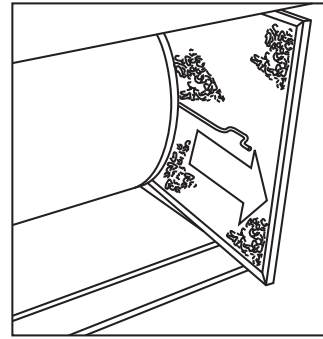
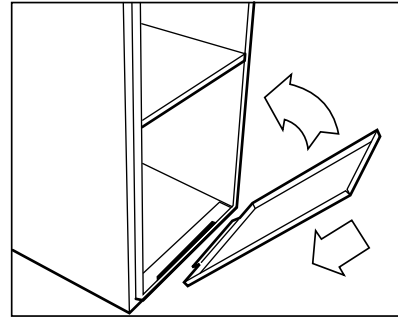

Fig. 26 - Slide Filter Out of Furnace (Side Inlet) A93013
Fig. 27 - Replace Blower Access Panel A93205
- d. Slide air filter out of furnace. (See Fig. 26.)
- **AIR FILTER(S) LOCATED IN BLOWER COMPARTMENT SIDE:**
- a. Remove filter retainer from latch. (See Fig. 27.)